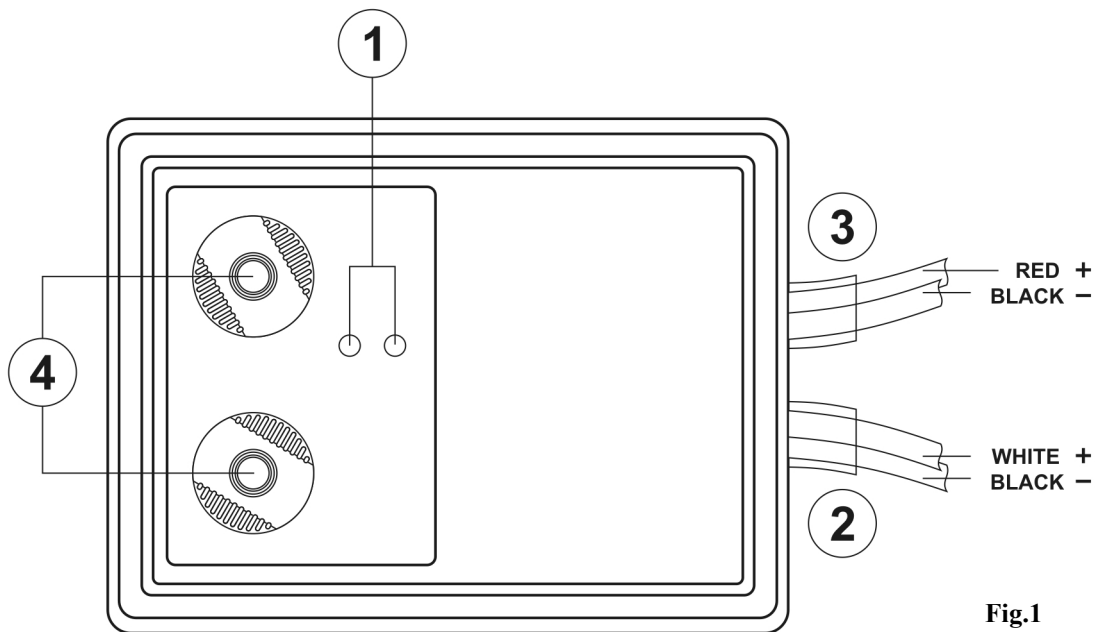

Fig.1
Green**	The load is powered by the 13.8V DC INPUT (2) (Fig.1) and the battery is in maintenance charge
Red***	The load is powered by the 12V Battery (3) (Fig.1)